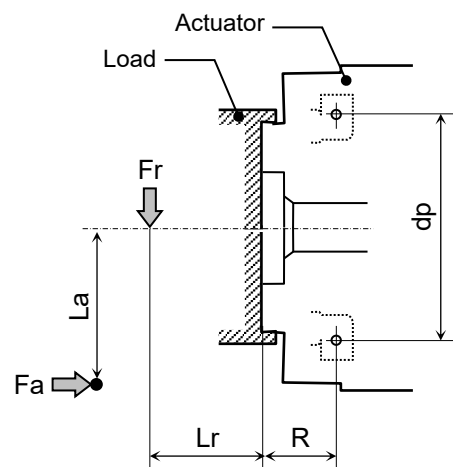

Fig.1 Loads
F_{rmax} : Maximum radial load in N(kgf); See Fig.1.
F_{amax} : Maximum axial load in N(kgf); See Fig.1.
L_r , L_a : Loading point in mm; See Fig.1.
R : Offset; See Fig.1 and Table 1.
L_r, L_a : Loading point in mm; See Fig.1.
dp : Circular pitch of roller: See Fig.1 and Table 1.
d_p :	Circular pitch of roller: See Fig.1 and Table 1.
L_r, L_a :	Loading point in mm; See Fig.1.
R :	Offset; See Fig.1 and Table 1.
- M_{\max} : Maximum torsional moment in N•m(kgf•m); obtained by the formula (1)
- $F_{r \max}$: Maximum radial load in N(kgf); See Fig.1.
- $F_{a \max}$: Maximum axial load in N(kgf); See Fig.1.
- d_p : Circular pitch of roller: See Fig.1 and Table 1.